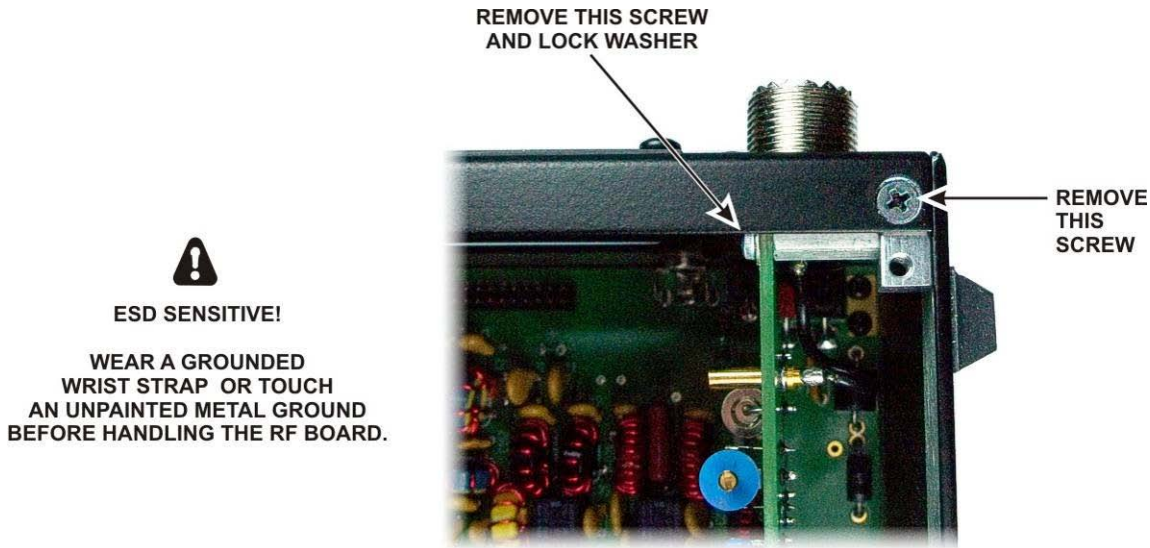
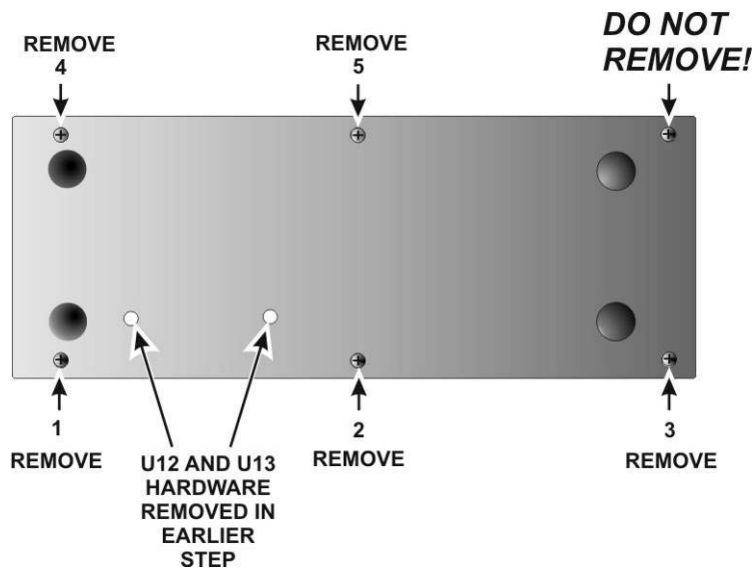

Figure 31. Removing Side Panel Hardware, Part 1.
Figure 32. Removing Side Panel Hardware, Part 2.
☐ Remove the screw holding the KANT3A (or, if installed, the optional KAT3A) board to the standoff and the screw holding the 2D fastener to the rear panel near the SO239 antenna connector shown in Figure 31. Do not lose the lock washer inside the K3S or K3. It is easier to keep the hardware from falling inside if you set the K3S or K3 on its side feet and remove the screw and lock washer holding the KANT3A or KAT3A board first, then set it on its bottom feet and remove the flat head screw from the 2D fastener.
☐ Remove the five screws shown in Figure 32 from the right side panel to release it. Screw 5, which holds the end of the stiffener bar, already will be out if you're performing the initial installation of the KRX3A. The side panel will lift off with the 2D fastener and standoff shown in Figure 31 attached.
Replace the right side panel on the K3, installing the 4-40 3/16" flat head screws shown in Figure 32 except for screw number 5. It will be replaced later with the stiffener bar.
Replace the 4-40 1/4" (6.4 mm) zinc pan head screw and washer that holds the KAT3A board to the standoff as shown in Figure 31.
- Replace the 4-40, 3/16" (4.8 mm) black flat head screw that secures the back panel to the 2D fastener as shown in Figure 31.